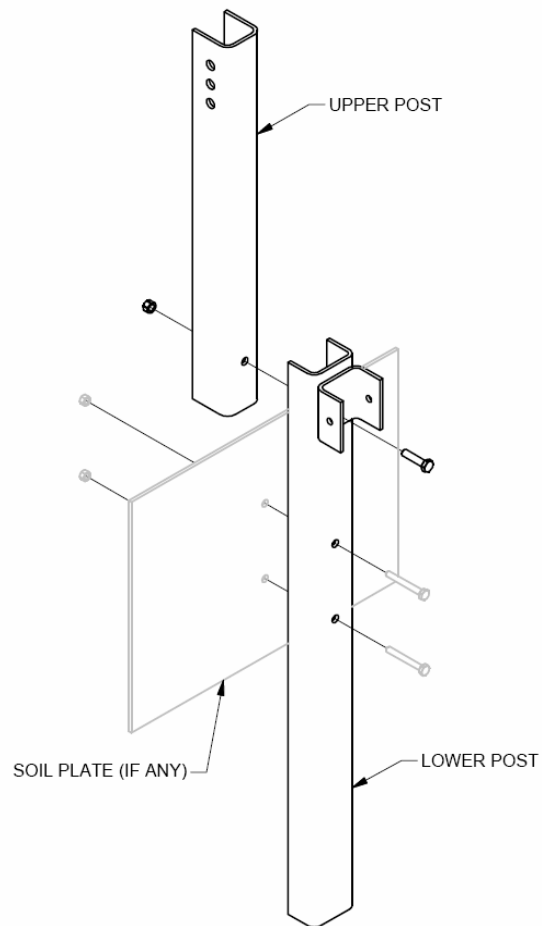

Figure 1
2. Find a suitable location for the installation of the test posts that will match the conditions at the actual installation site. Install the lower head post according to the "*Terminus CEN Production/Installation Manual*", except with the modified (or removed) soil plate (See Figure 1). Note that when fastening the upper post to the lower post, only one nut is required for this test.